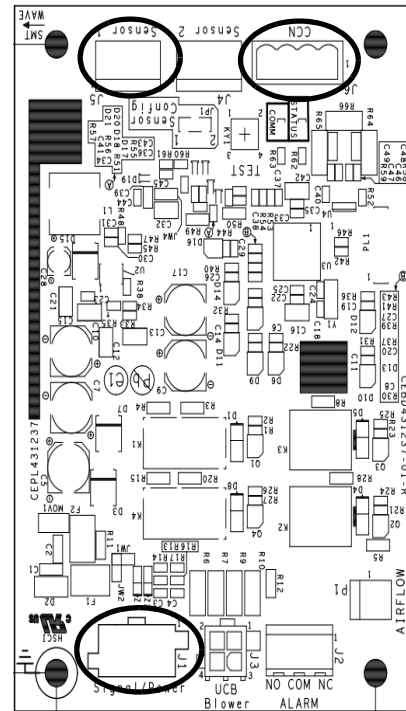

Fig. 1 – Dissipation Board
4. Disconnect all connections to the dissipation board. Fig. 1 shows all connections that might need disconnected.